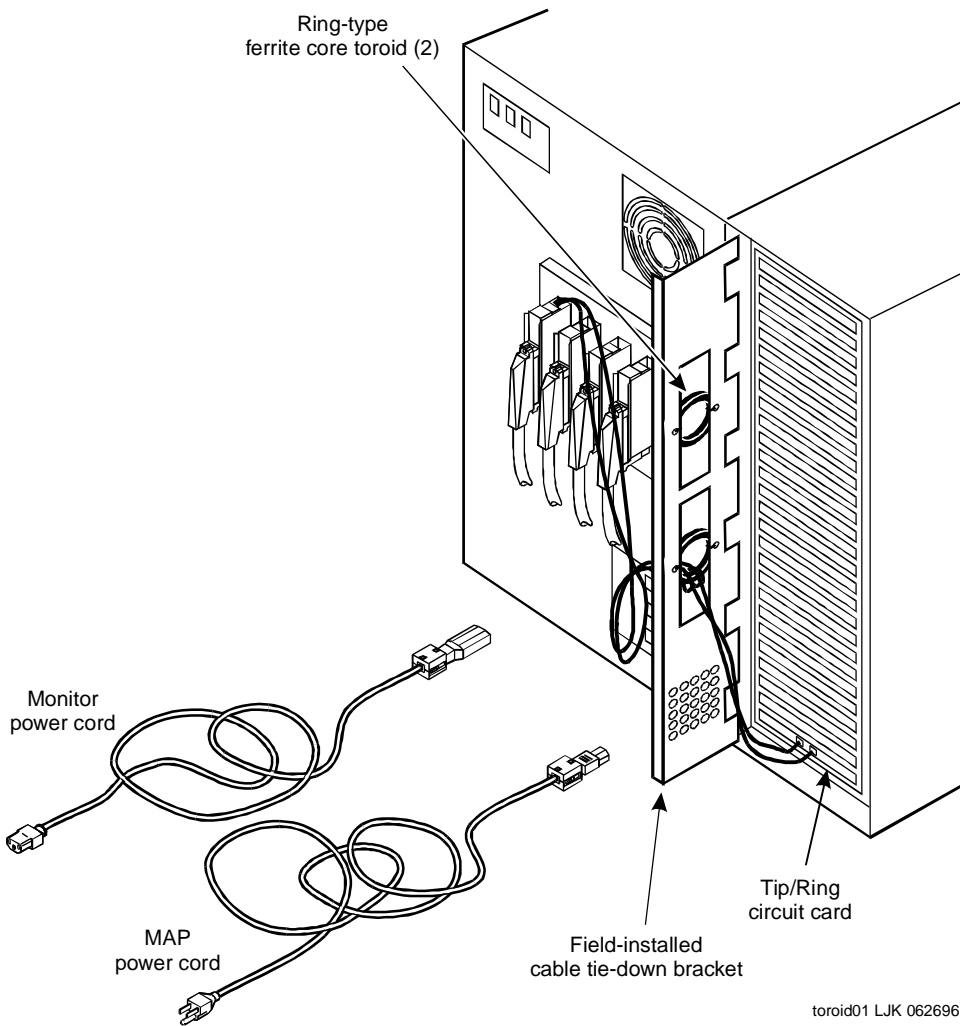

Figure 2-3. Cable Tie-Down Bracket Installation
2. Slide the bracket under the screw heads in the slots provided (Figure 2-3).